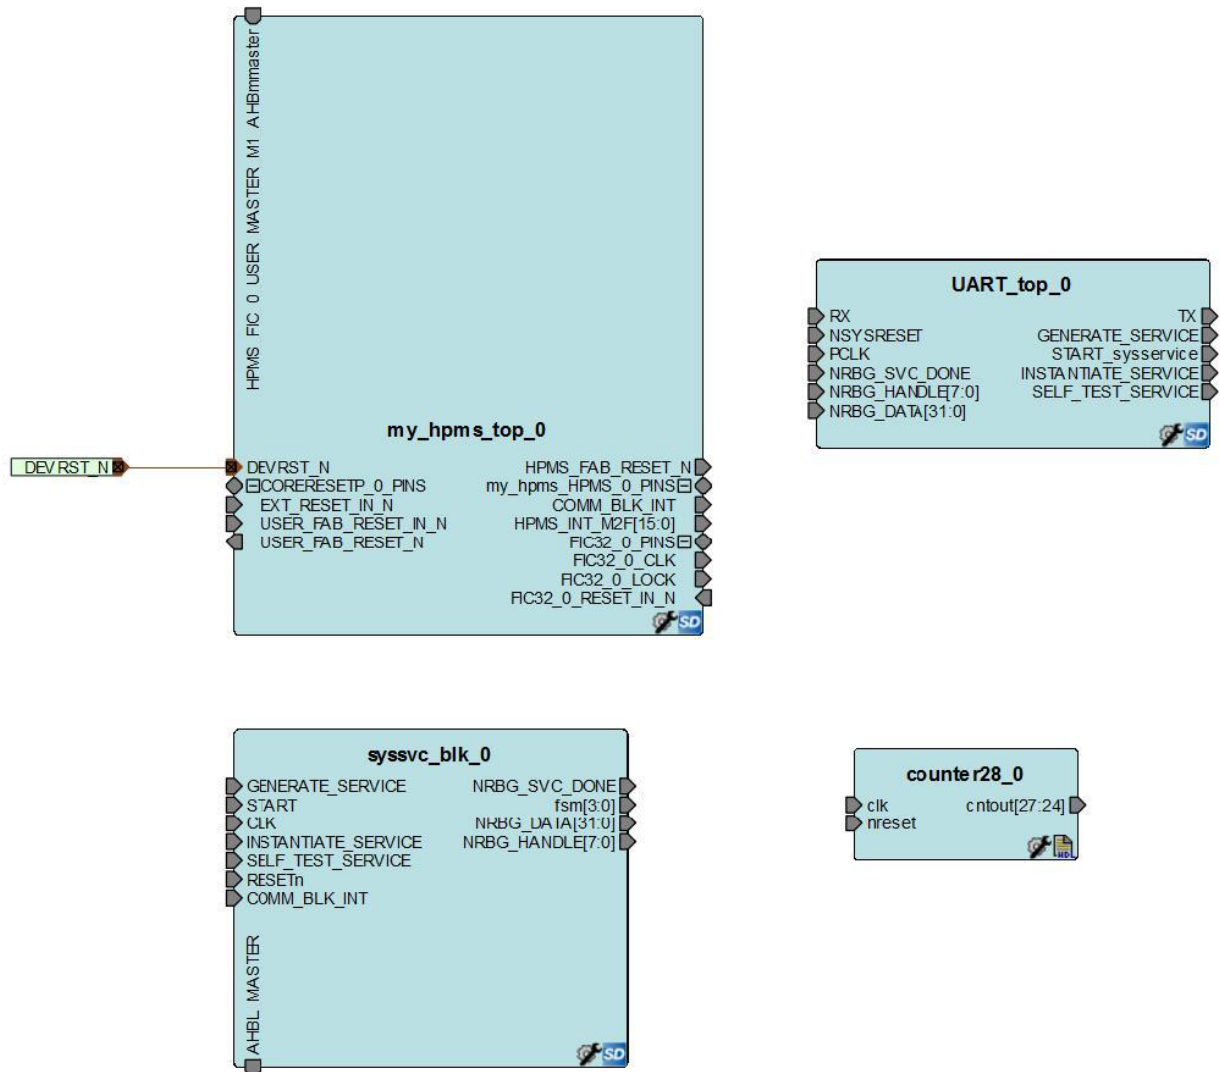

Figure 31 SmartDesign Canvas After Adding the Components
3. Drag an instance of the **UART_top**, **syssvc_blk**, **my_hpms_top**, and **counter28** components into the SmartDesign canvas, as shown in Figure 31.